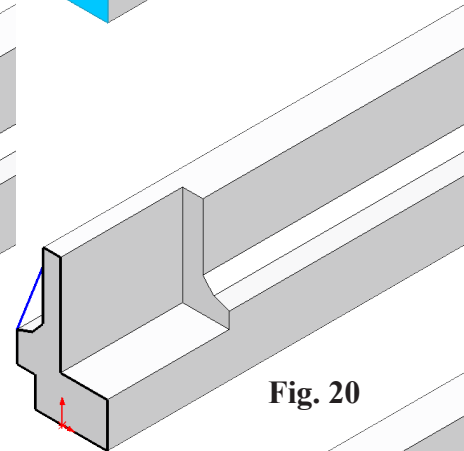
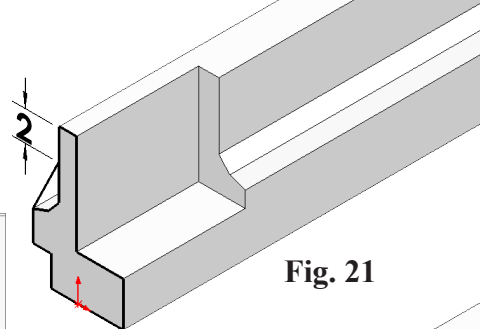

Fig. 20
Fig. 21
Step 3. Click **Line**  (L) on the Sketch toolbar.
Step 4. Sketch line, **Fig. 20**.
Step 5. Click **Smart Dimension**  (S) on the Sketch toolbar.
Step 6. Add **2** dimension, **Fig. 21**.